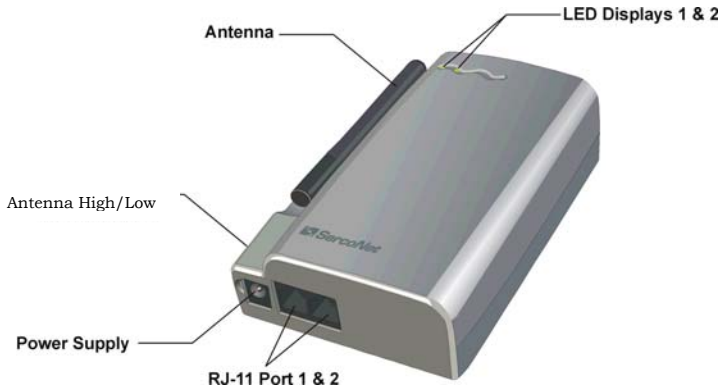

Figure 8: Power Supply
6. Attach the power supply (see *Figure 8*).